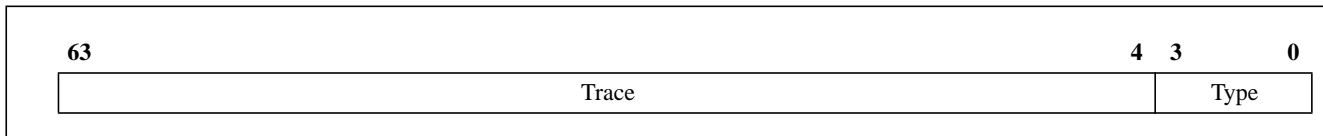

Figure 3-1 TW (Trace Word)
A Trace Word (TW) is defined to be 64 bits wide. A TW has a 4 bit type indicator on bits [3:0], and regular TF's stacked up in the remaining 60 bits of the word. Figure 3-1 shows the 64-bit wide TW.